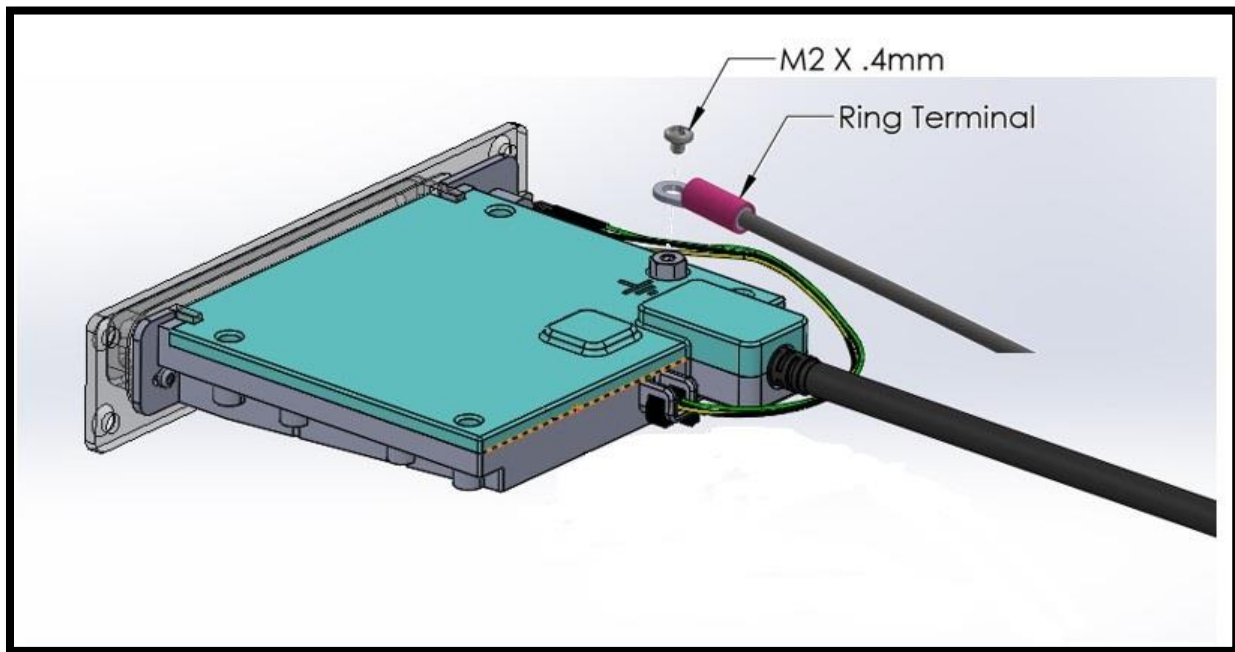

Figure 2-1 - Using the Alternate Earth Grounding Standoff
mDynamo with Outdoor Bezel provides a permanently attached USB cable (see **Figure 2-1 - Using the Alternate Earth Grounding Standoff**). A **USB Device port** must be connected directly to a host's USB port, or connected to the host via a powered USB hub, to provide power to the device and bidirectional communication with the host. The device's USB connector is a Micro-USB B receptacle designed to mate with a standard Micro-USB B connector found on the peripheral end of commercially available cables. MagTek does not support connecting multiple mDynamo with Outdoor Bezel devices simultaneously to the same host. Depending on usage, the device expects to draw up to 500mA at 5V from the USB port, and the solution design must ensure 500mA is available to the device at all times. The mDynamo controller board in mDynamo with Outdoor Bezel draws a maximum of 300mA.
- Bring in earth ground from the host through the USB cable's metal connector shell to the **USB Device Port**, See **Figure 2-1** for details.
- Bring in earth ground through the Alternate Earth Grounding Standoff. See **Figure 2-1** for details.